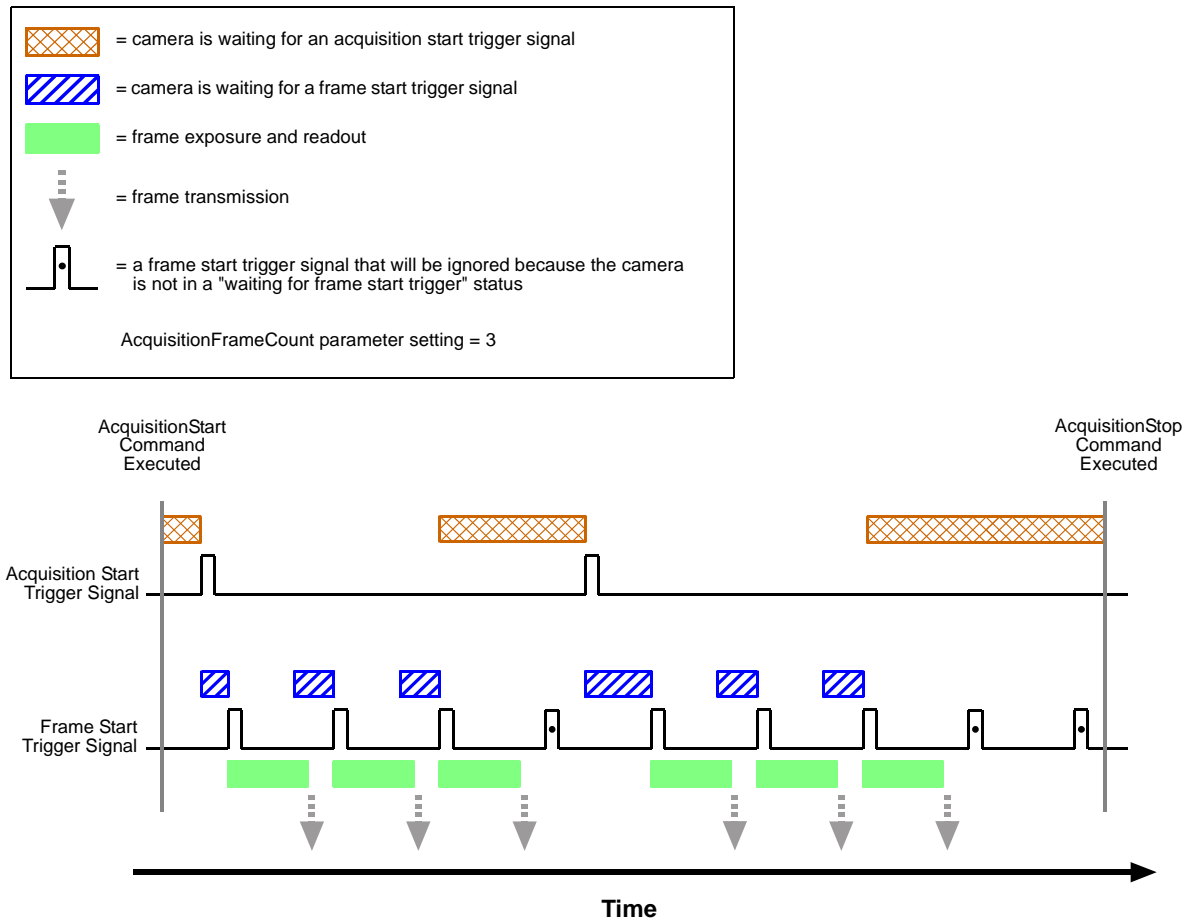

Fig. 63: Acquisition Start and Frame Start Triggering
When reading the material in this chapter, it is helpful to refer to Figure 63 on page 124 and to the use case diagrams in Section 6.11 on page 192. These diagrams present the material related to the acquisition start and stop commands, the acquisition mode, the acquisition start trigger, and the frame start trigger in a graphical format.
- **On**, the initial acquisition status of the camera will be "waiting for acquisition start trigger" (see Figure 63 on page 124).
Assuming that an acquisition start trigger signal has just been applied to the camera, the camera will exit from the "waiting for acquisition start trigger" acquisition status and enter a "waiting for frame start trigger" acquisition status. Applying a frame start trigger signal to the camera at this point will exit the camera from the "waiting for frame start trigger" acquisition status and will begin the process of exposing and reading out a frame (see Figure 63 on page 124). As soon as the camera is ready to accept another frame start trigger signal, it will return to the "waiting for frame start trigger" acquisition status. A new frame start trigger signal can then be applied to the camera to begin another frame exposure.
When reading this section, it is helpful to refer to Figure 63 on page 124.